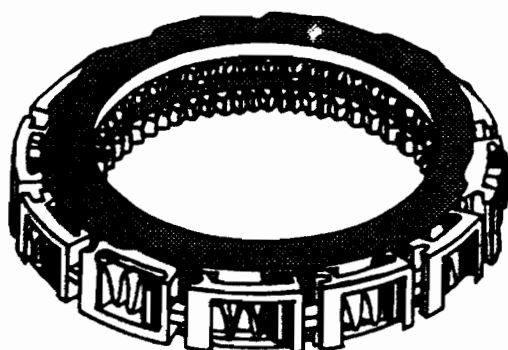

Figure 23
- (3) Push the overdrive roller clutch assembly all the way down, as shown in Figure 23.